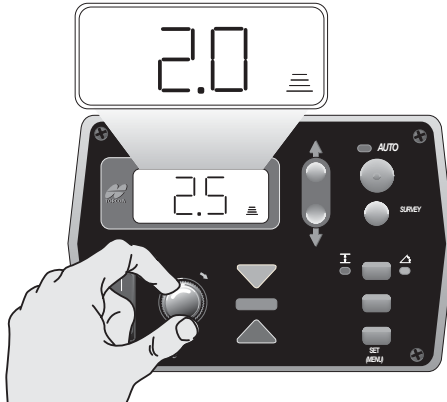

Figure 4-4. Adjusting Grade Height
- Knob adjusts the grade height while in elevation control (Figure 4-4).